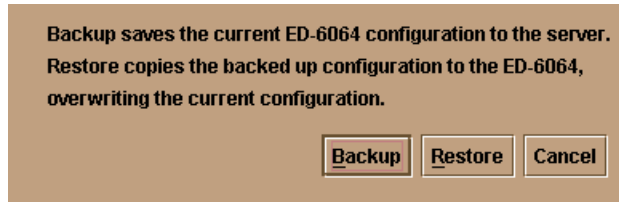

Figure 4-126 Backup and Restore Configuration menu
- b. From the ED-6064 product manager menu, select **Maintenance —> Backup & Restore Configuration**, then select the **Backup** option as shown in Figure 4-126.